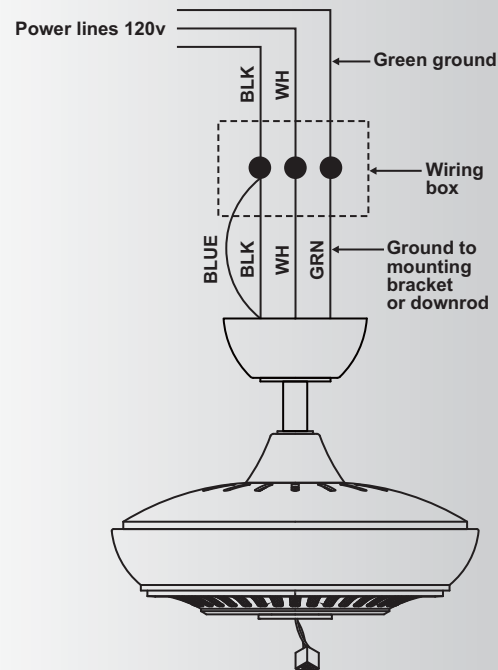

Fig. 12
Step 1. Connect the fan supply (black) wire and light supply (blue) wire to the black household supply wire as shown in Figure 12.